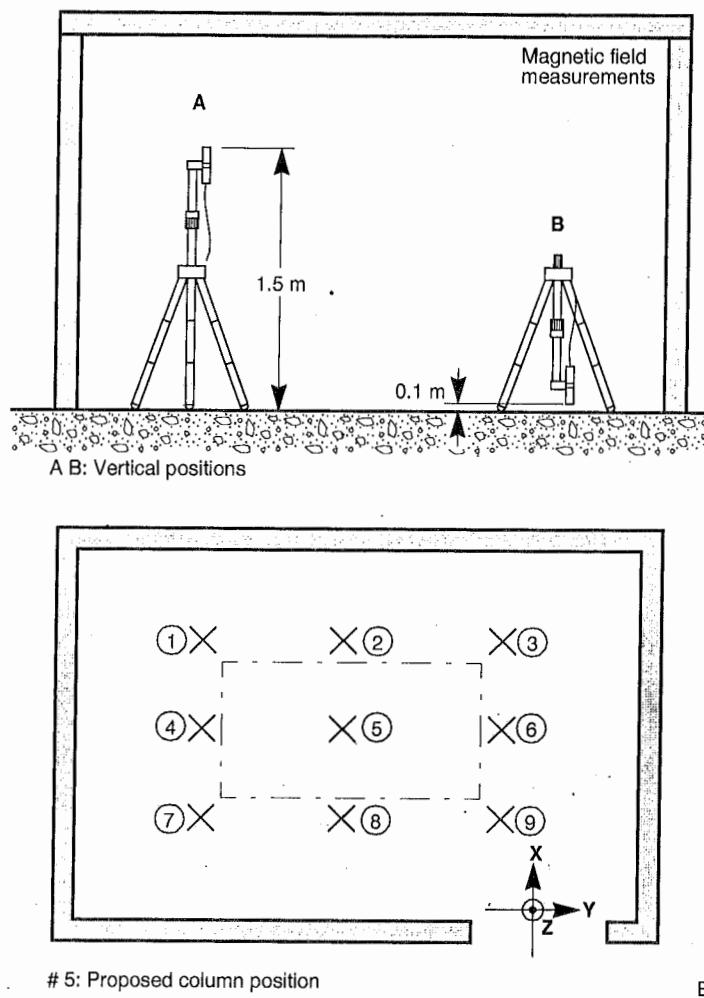

Fig. 6D Magnetic field measurement positions
Step 5. Start standard measurement (see Fig. 6D) by [START] [START].